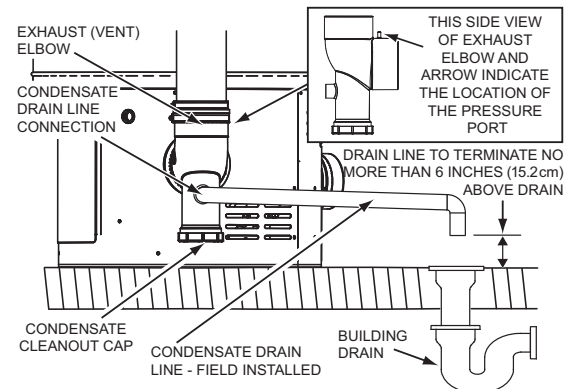

Figure 10
Condensate drains from the water heater at the exhaust elbow located at the bottom. The field installed condensate drain line must not be elevated above the condensate drain connection on the condensate trap, see Figure 10. If the condensate does not drain properly it will build up in the exhaust (vent) elbow. This will restrict the flow of flue gases and cause the Blocked Exhaust pressure switch to open its contacts. The control system monitors all pressure switches, if the Blocked Exhaust Switch contacts are open the control system will lock out and disable heating operation. The "Blocked Exhaust" Fault message will be displayed on the control system's LCD.
**DO NOT** remove the factory installed exhaust/condensate elbow for any reason, see Figure 10. The water heater's vent pipe is under a slight positive pressure while unit is in operation. The water trap inside of the exhaust/condensate elbow prevents flue gases from escaping into the installed space.